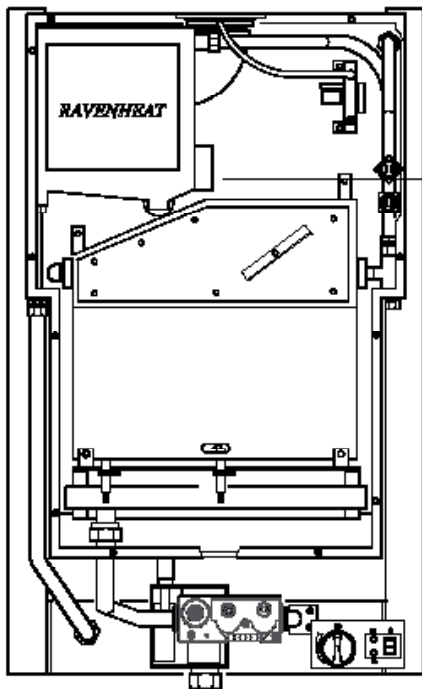

Fig. 54
- 7.6 TO REMOVE/REPLACE THE FAN ASSEMBLY (Fig. 54)**